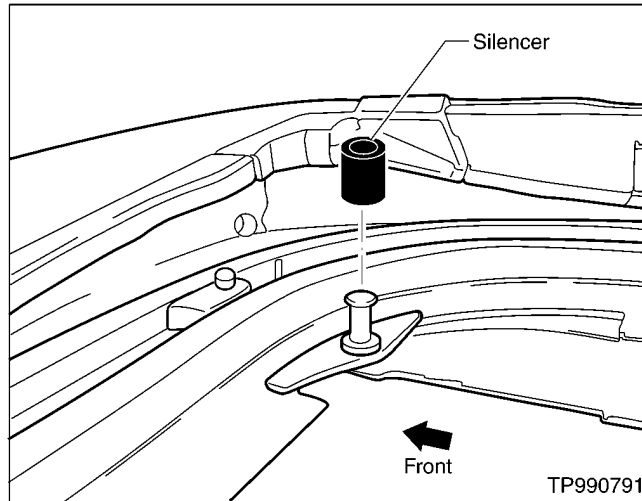

Figure 10
11. If damaged or missing, install two new front silencers (see Figure 10).